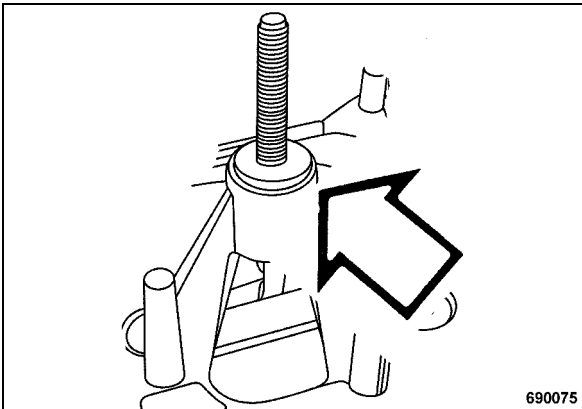

Fig. 45
- Check the rubber seal (Fig. 45), replace the rubber seal if it is damaged.